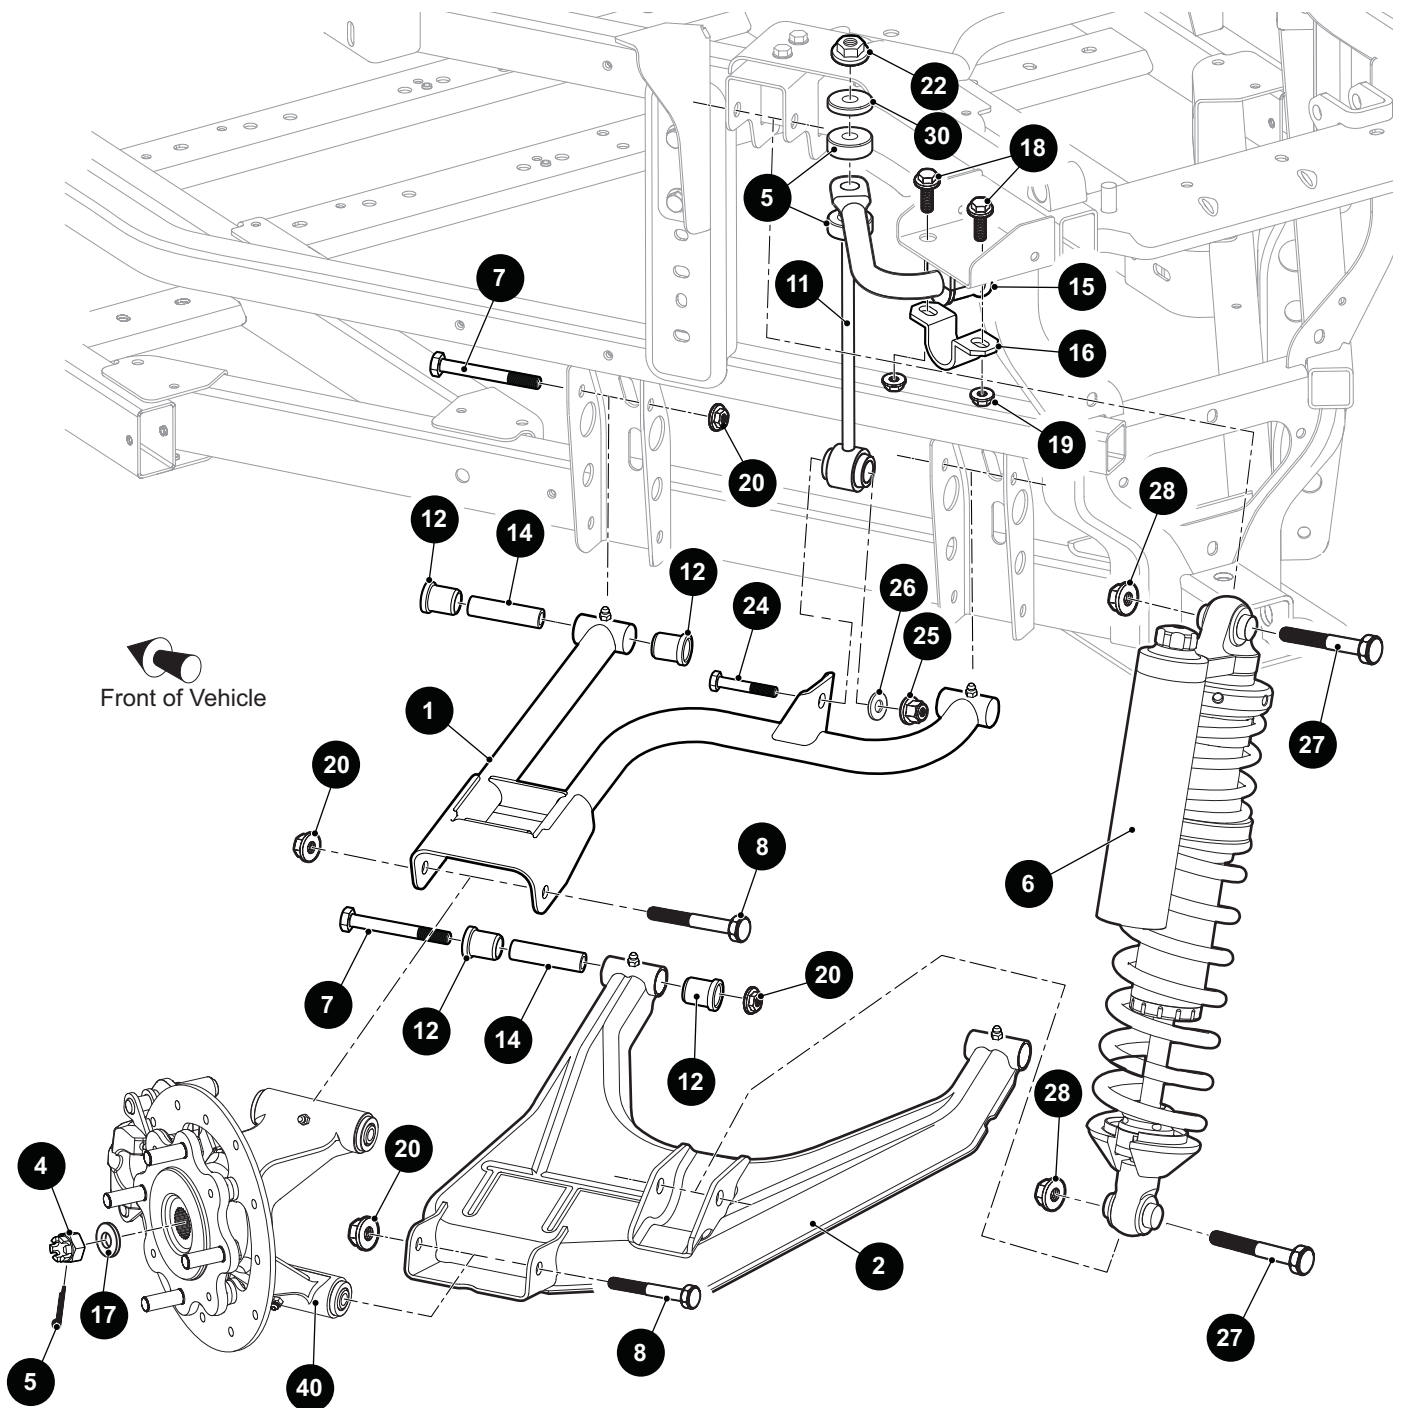
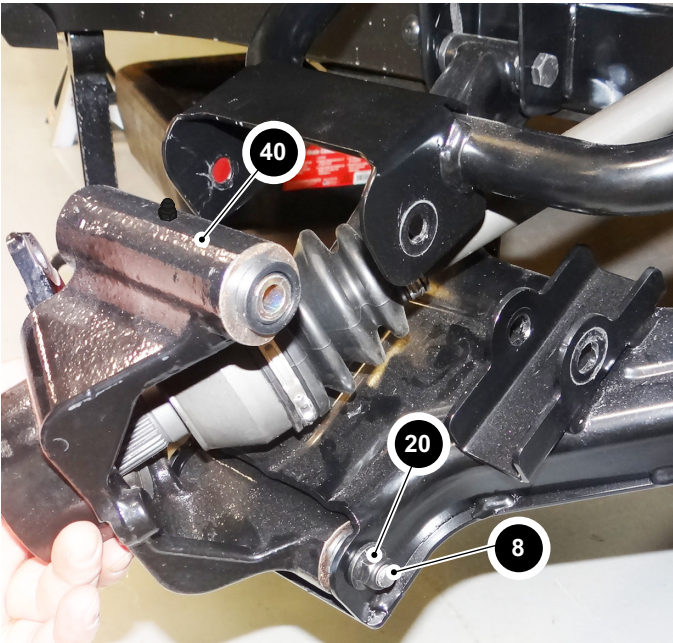

Fig. 1 Rear Suspension Components
Fig. 5 Spindle
- 5. Remove the bolt (8) and nut (20) that secure the spindle (40) to the upper control arm (1) (Ref. Fig. 1) (Ref. Fig. 5).
- 6. Remove the bolt (8) and nut (20) that secure the spindle (40) to the lower control arm (2) (See Fig. 1) (Ref. Fig. 6). Slide the spindle assembly off the CV axle splines.